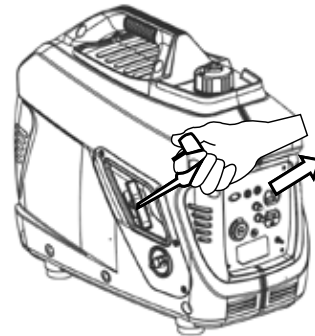

Figure 8: Pull the Recoil Handle Away from Inverter
5. Firmly grasp and pull the recoil handle slowly until you feel increased resistance. At this point, apply a rapid pull while pulling out from the inverter (see Figure 8).